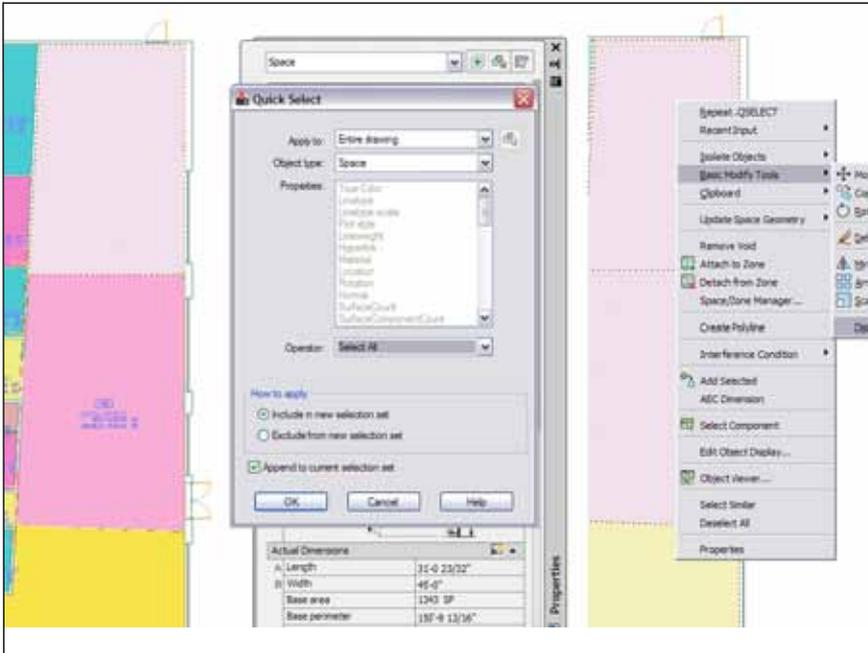

Figure 8
4. It is good practice to 'Send spaces to send to back.' You can quickly accomplish this by using the quick select tool (see Figure 8).